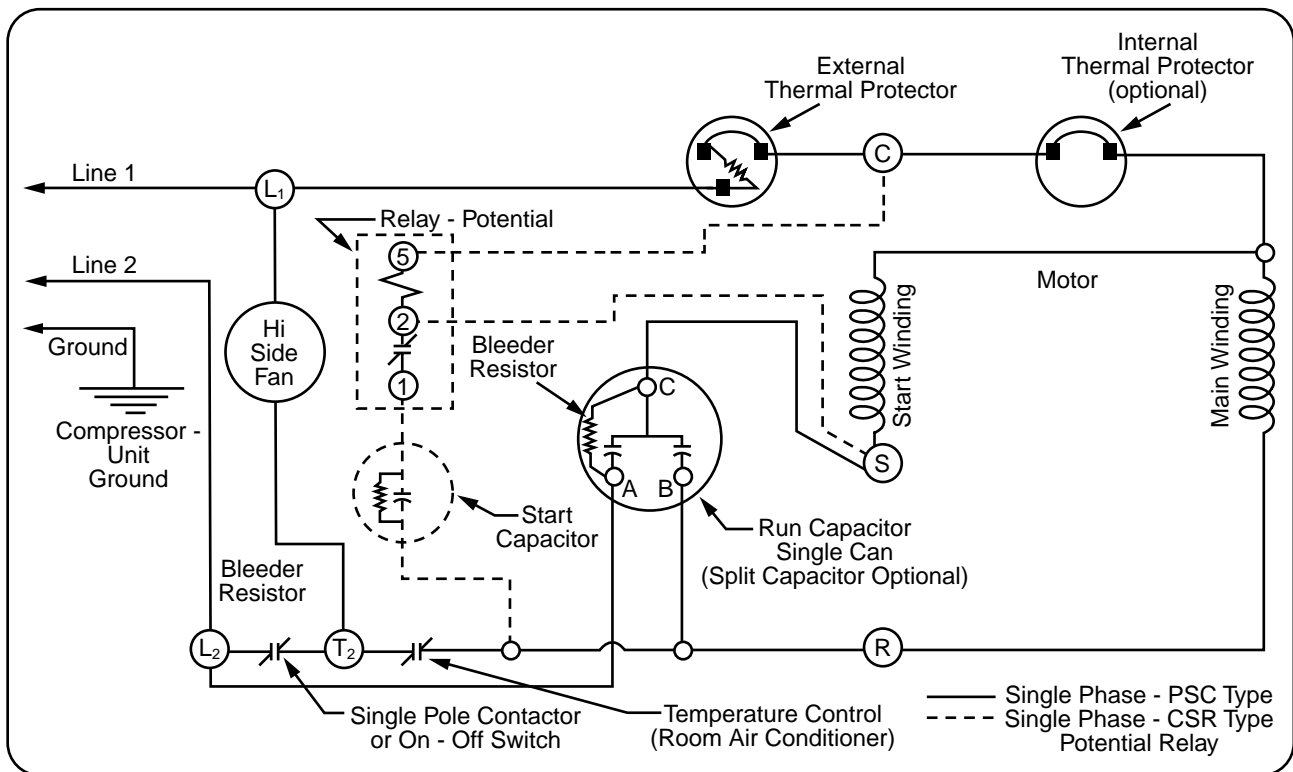

Figure 6-8. Wiring diagram for PSC compressor with run capacitance off-cycle heat.
- Run capacitor is sometimes split (3 terminals) so that only part of the capacitance is used for off-cycle heating. NOTE: Use exact replacement when changing such dual purpose run capacitors. Capacitor must be fused and carry a bleeder resistor across the terminals. See Figure 6-8 for the basic wiring diagram for a PSC compressor with run capacitance off-cycle heat.